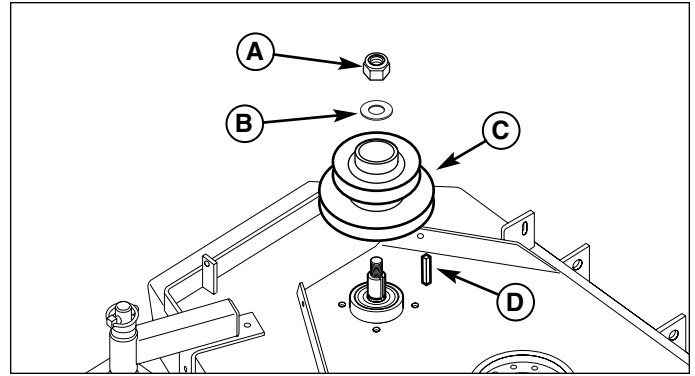

Figure 15. Install Spindle Pulley
1. Apply an anti-seize compound to the spindle shaft. Install the new, double spindle pulley (C, Figure 15) on the shaft with the smaller pulley facing up with the 5/8" nylon lock nut (A), 5/8" washer (B) and 1/4" key (D) and tighten to 85-95 ft./lbs. (115-128 N.m.). Use a block of wood to keep the blade from spinning while installing and tightening the 5/8" nut.